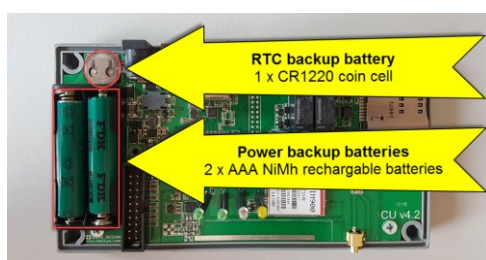

Figure 69: CU batteries
- ▶ Batteries are positioned on their older as shown on Figure 69.